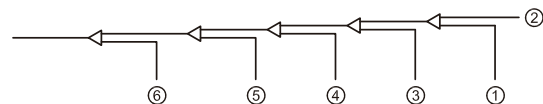

Fig. 14-15
8. Flush the other openings in the same manner, working in sequence from indoor unit A towards the outdoor units. Refer to Fig.14-15